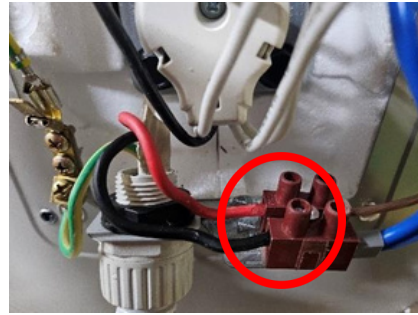

Fig28
33. Connect main active and neutral wiring to terminal block (refer Fig 28).